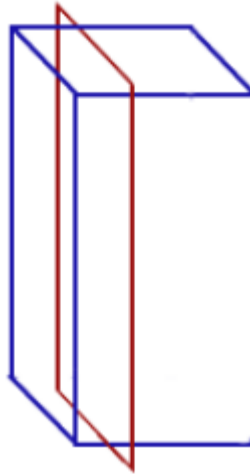

Fig.4.2
2. Section of solids obtained by vertical planes as shown in Fig 4.2.